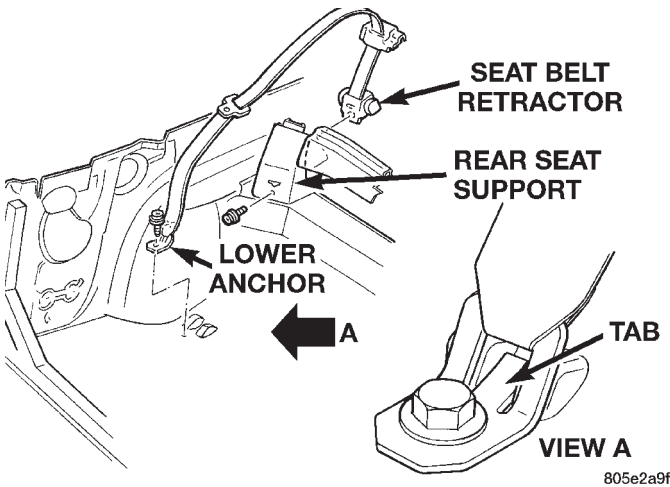

Fig. 62 Rear Outer Seat Belt And Retractor
- (1) Remove rear seat cushion.
- (2) Remove rear seat back.
- (3) Remove quarter trim panel.
- (4) Remove bolt holding seat belt anchor to floor pan (Fig. 62).
- (5) Remove bolt holding seat belt retractor to rear seat support assembly.
- (6) Separate seat belt and retractor assembly from vehicle.
- (1) Position seat belt and retractor assembly to rear seat support assembly.
- (2) Engage hook on seat belt retractor to slot in rear seat support assembly.
- (3) Install bolt holding seat belt retractor to rear seat support assembly.
- (4) Route seat belt through channel and snap bezel onto top of channel.
- (5) Install bolt holding seat belt anchor to floor pan.
- (6) Verify that seat belt is not twisted when engaged to seat belt buckle and that the tab on the lower seat belt anchor is between the formations on the floor pan (Fig. 62).
- (7) Install quarter trim panel.
- (8) Install rear seat back.
- (9) Install rear seat cushion.